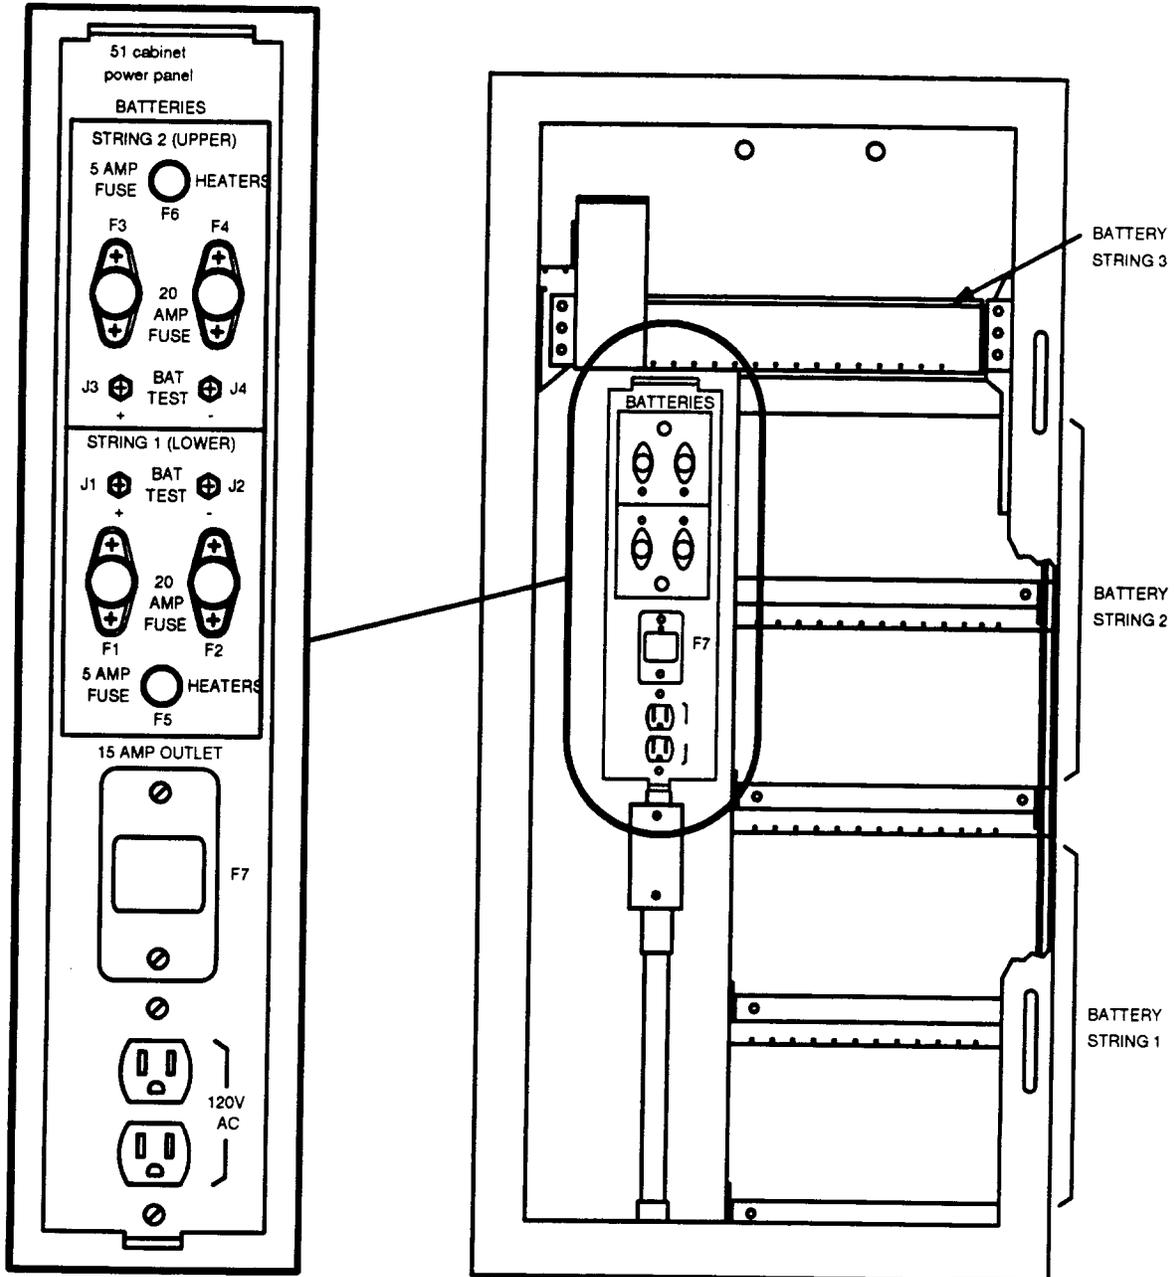

Figure 1 — Battery Section of 51A Cabinet Showing Power Panel
5. In battery section of cabinet at power panel (Figure 1), refer to Table A and remove the fuses associated with battery string 2 (either F1, F2, and F6 or F3, F4, and F6).